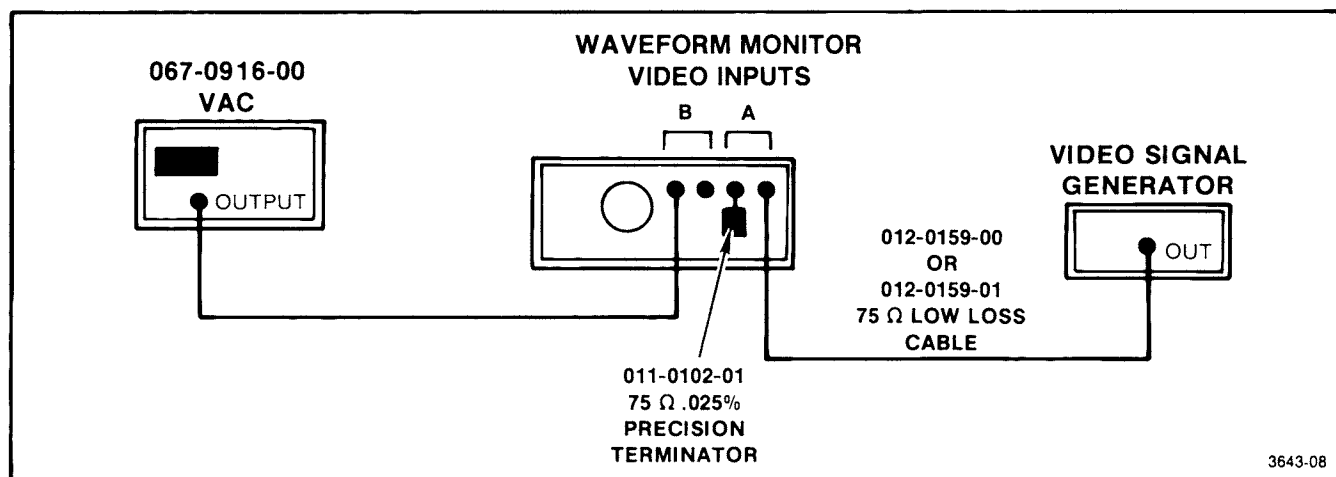

Fig. 4-1. Connecting the Video Amplitude Calibrator and TSG7 for luminance measurements.
- a. Connect the Color Bars rear-panel MODULE OUTPUT connector to the 1480 Ch A input, and terminate the other Ch A loop-through input with the precision 75 Ω termination. Connect the VAC output to the Ch B input of the 1480; do not terminate (see Fig. 4-1).